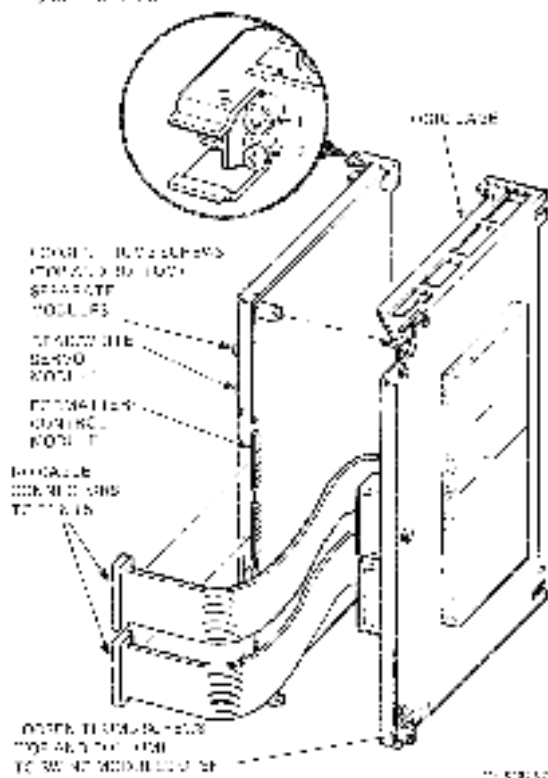

Figure 4-20 Logic Modules - Logic Caps
4. To release read/write/servo module, loosen thumbscrews in logic cage (Figure 4-20) as follows:
3. Loosen and back out top screws on each hinge of logic cage (three) to release read/write/servo module (Figure 4-20).
5. To release formatter/control module from logic cage (Figure 4-20) loosen thumbscrews on each side of cage: